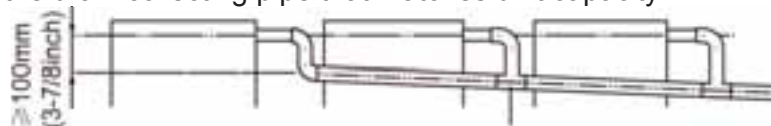

Fig 4.3.4
- (4) When connecting several drain pipes, follow the instruction as shown in Fig 4.3.4. Choose the drain collecting pipe that matches unit capacity.